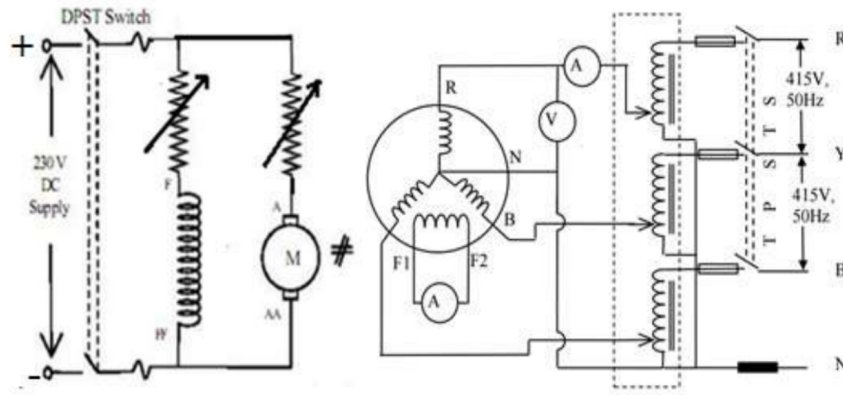

Figure 1: Circuit Diagram for Negative Sequence Impedance( $Z_2$ ) Measurement
- Connect the circuit as shown in Figure 1. (Circuit Diagram for Negative Sequence Impedance Measurement.)